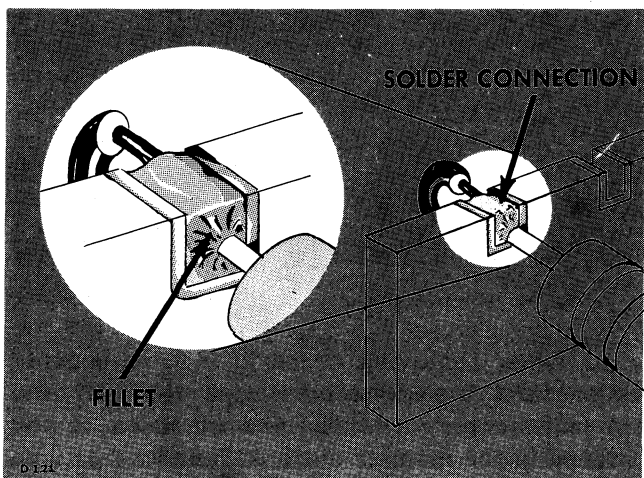
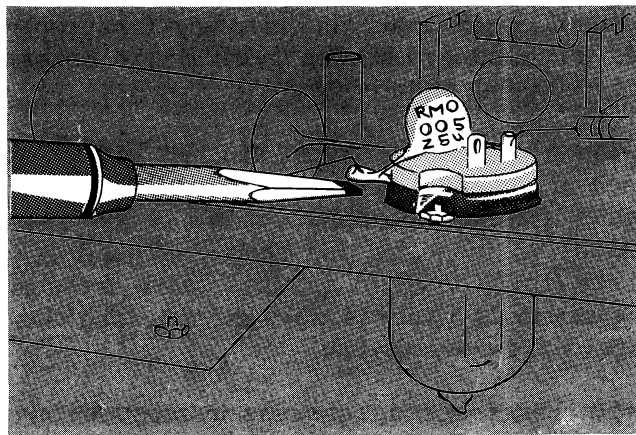

Fig. 5-6. A slight fillet of solder is formed around the wire when heat is applied correctly.
Fig. 5-7. Soldering to a terminal. Note the slight fillet of solder--exaggerated for clarity--formed around the wire.
6. Do not attempt to fill the notch on the strip with solder; instead, apply only enough solder to cover the wires adequately, and to form a slight fillet on the wire as shown in Fig. 5-6.
to be soldered as shown in Fig. 5-7. Use only enough heat to allow the solder to flow freely along the wire so that a slight fillet will be formed as shown in Fig. 5-6.